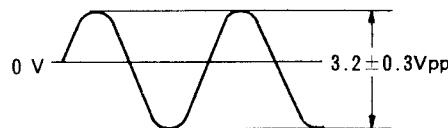

Fig. 6-1
- a) The waveform shown in Fig. 6-1 should be at terminal LFO (TP23) when LFO selector switch (PSW22) is set at " ~ ". Adjust VR9 so that $100 \pm 2Hz$ be read when LFO SPEED control is set at F.